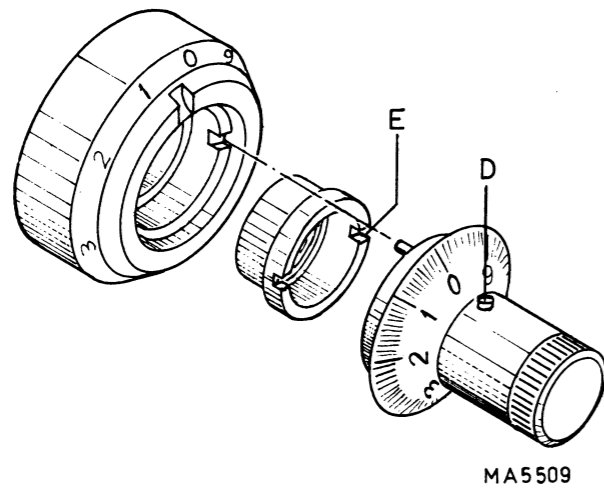

Fig. 3.3. Removing the delay-time multiplier knob
3.3.3.3. Delay-time multiplier knob (Fig. 3.3) (not for PM 3260E)